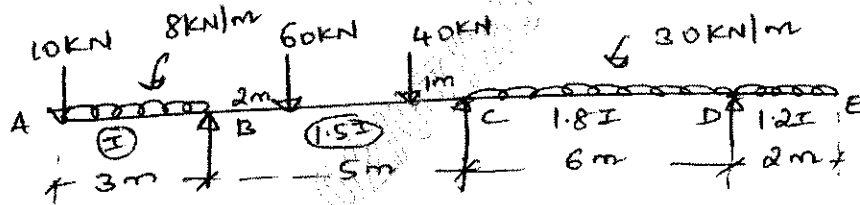

Fig.Q.9
- 9 Analyze the continuous beam as shown in Fig.Q.9 by direct stiffness method. Draw BMD. (16 Marks)